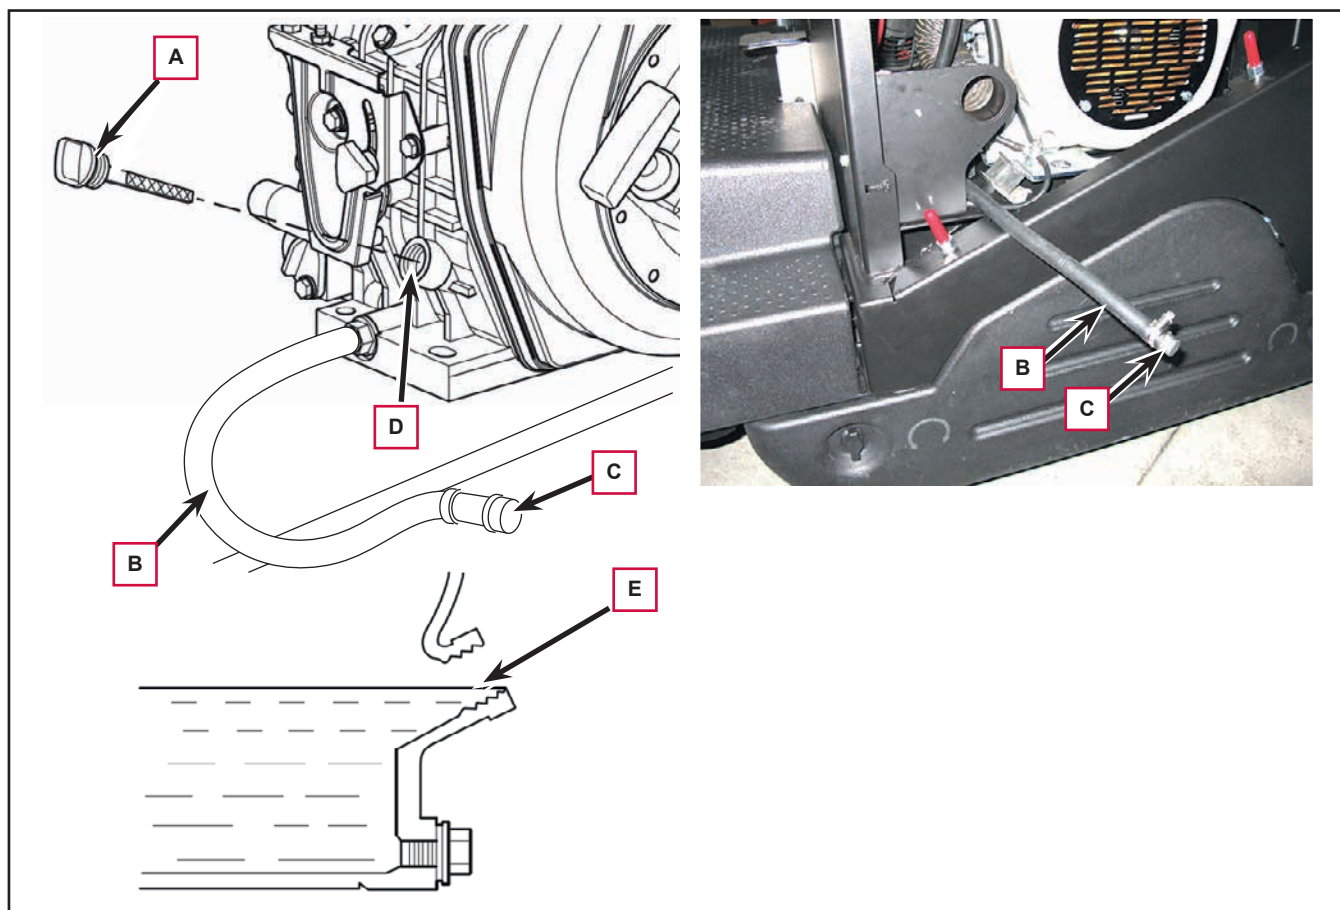

Figure 6
5. Remove the cap (A, Figure 6).
6. Disengage the extension tube (B) with cap (C) on the engine oil drain hole from its fastener, in order to facilitate draining off the oil.
7. Pour the new oil through the filler (D) until it reaches the upper limit (E).